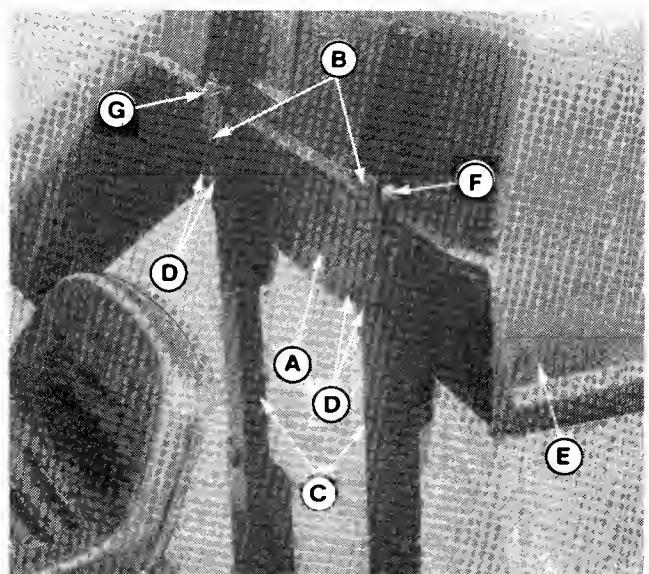

Figure 9 (Shown With Cover Installed)
10. Attach the support plate (A, figure 9) and hinges (B) to the two upper braces (C). Insert four 5/16-18 x 7/8 capscrews from rear, then install 3/8(ID) x 7/8(OD) washers, lockwashers and nuts (D) (unless already assembled).
14. Place cover (E, figure 9) onto the support plate and align the hinges. Insert two pins (F) and install clips (B). The front edge of the cover must seal against the support plate. Loosen nuts (D) to re-position if necessary, then tighten.